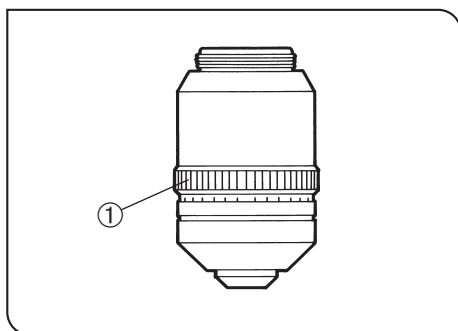

Fig. 44
- If the cover glass thickness is known, set the correction collar ① to that scale value. (Fig. 44)
- If the cover glass thickness is unknown, adjust the correction collar ① and fine adjustment knob alternately until the positioning with the highest contrast is obtained.
- ⊗ Be careful not to touch the correction collar ① when turning the revolving nosepiece.